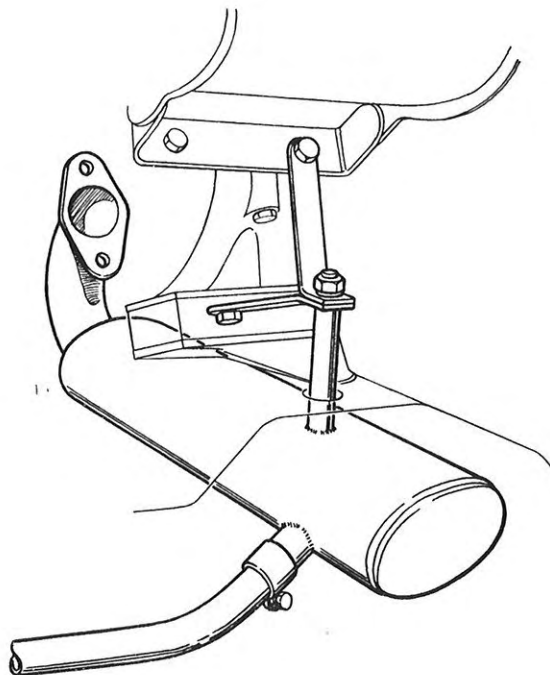

Fig. 2. Front muffler
The exhaust pipe, which connects the front and rear mufflers, is inserted into and clamped to the pipe connections on the two mufflers. See Figs. 2 and 3. The pipe connections are slit so as to give a tight seal when the clamps are tightened.
1. Loosen the suspension screw which holds the muffler to the engine, see Fig. 2.
1. Loosen clamp, see Figs. 2 and 3.
3. Loosen the clamp at the connection of the exhaust pipe to the front muffler, see Fig. 2.
1. Loosen clamp for exhaust pipe connection, see Fig. 2.
3. Loosen and remove the muffler suspension screw, see Fig. 2, and lower the muffler so that it comes below the front plate.